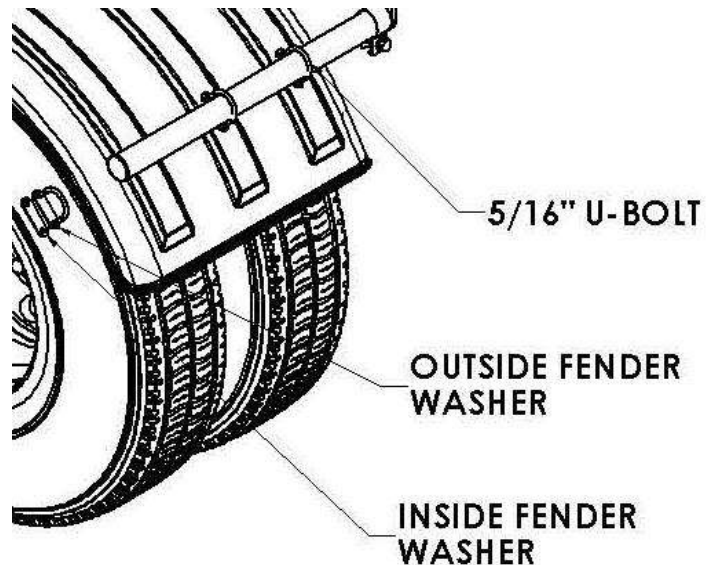

Figure 15
- e. Make sure the fenders are square and aligned (Figure 15). Twists or bows in the fender will fatigue the material over time.